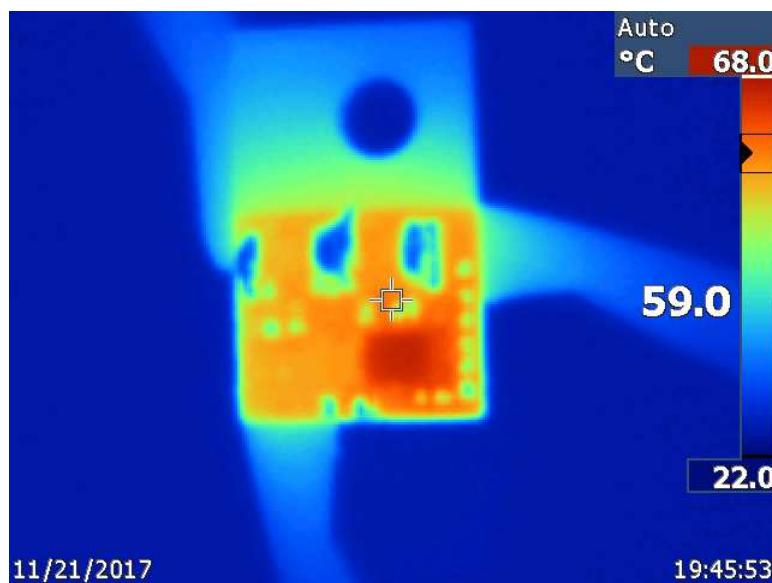

図 16. Thermal Image at 24 V_{IN} , 5 V_{OUT} , $300\text{ mA I}_{\text{OUT}}$
The infrared (IR) thermal image in 図 16 was taken at the steady state with 24 V_{IN} and the LMR36006 output at a load of 300 mA (no airflow). The ambient temperature is approximately 22°C . The maximum IC temperature is 68°C .